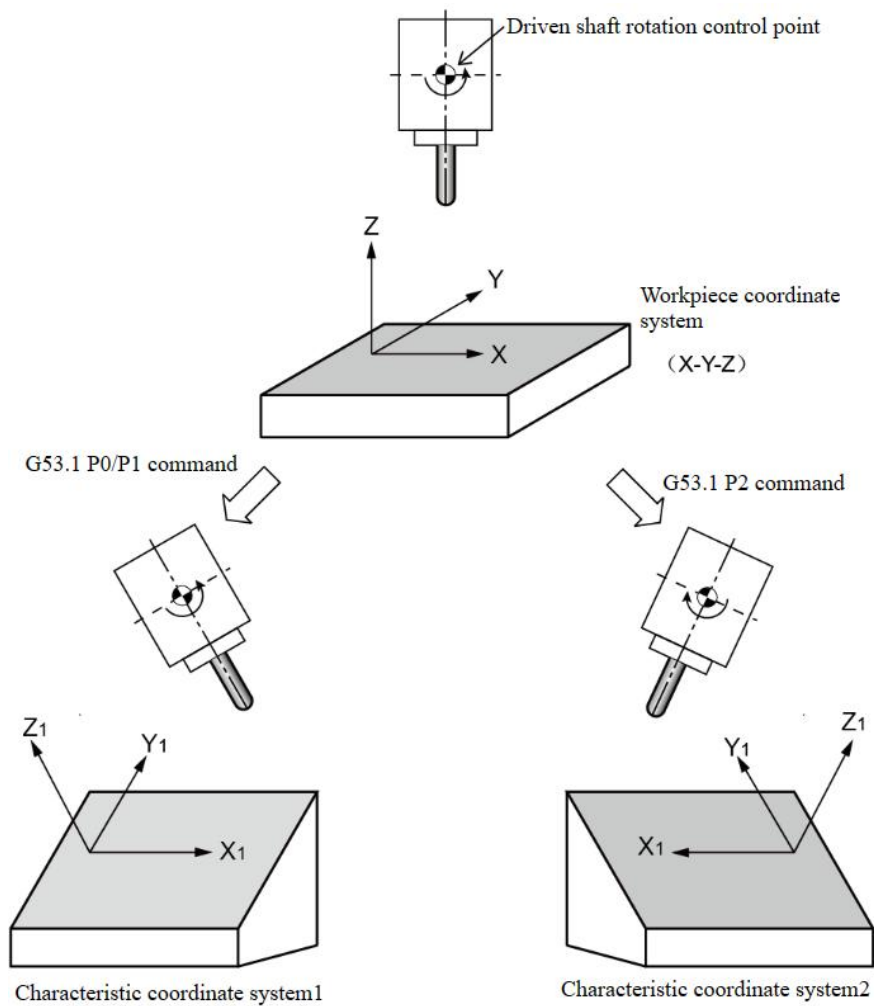

Figure 16-8 Motion Direction Selection
- (1) The G53.1 instruction can only be executed in G68.2 mode.
- (2) When G53.1 instruction controls the tool axis, only the rotating axis moves, and the moving axis X/Y/Z does not move, so that the tool axis direction becomes the Z + direction of the characteristic coordinate system.
- (3) In general, there are two solutions for G53.1 tool axis orientation, and peer P instruction is used to select which solution is used for tool axis orientation. P0/1: Adopt the positive solution value of the second rotating axis, and P2: Adopt the negative solution value of the second rotating axis. When the P instruction has no input, P0/1 is used by default, as shown in Figure 16-8.
- (4) When the G53.1 tool is positioned in the direction of axis, the rotating axis of the machine tool may move, so it is necessary to lift the tool to a safe height before G53.1 action to avoid workpiece interference.
- (5) G53.1 cannot be specified in the following modes: G02/G03, G12 polar coordinates, G41/G42, G43.4/G43.6, G66, G81 and other fixed cyclic modes, G68/G51/G51.1 rotation/mirror/zoom.